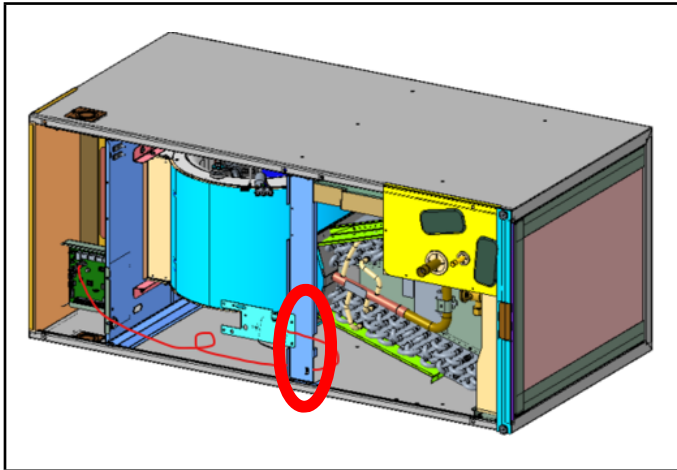
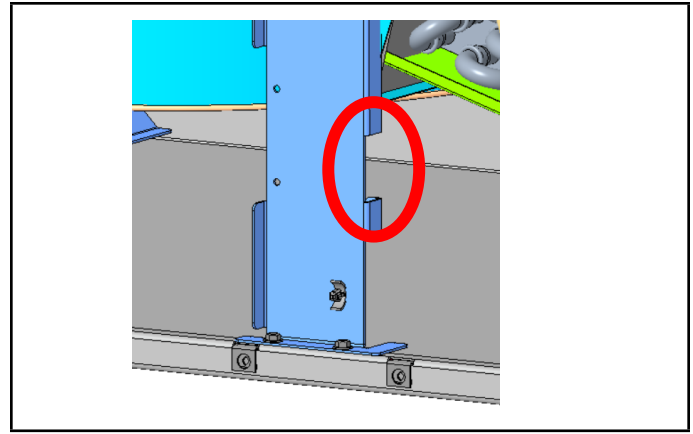

Figure 10
Figure 11
- 4 - Ensure sensor wire routes to the right hand side, as viewed from the front of the unit. The wire must route through the slotted opening in the center support bracket (see Figure 10 and Figure 11).